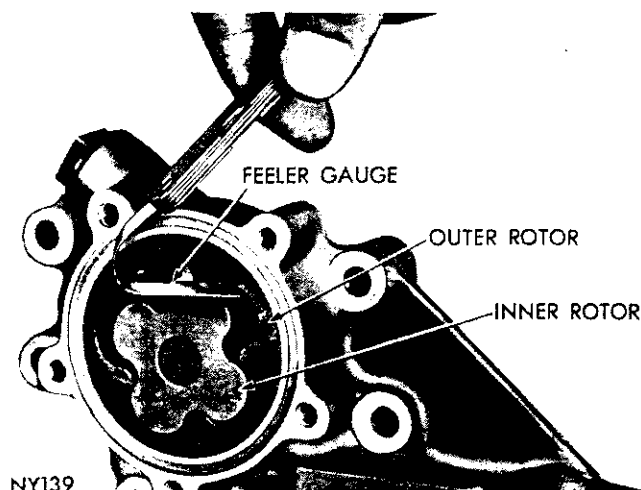

Fig. 54—Measuring Clearance Between Rotors
- (7) If clearance between inner rotor and outer rotor (Fig. 54) is more than .010 inch, replace inner and outer rotors.
- (8) Inspect oil pump relief valve plunger for scoring and for free operation in its bore. Small scores may be removed with 400 grit wet or dry paper.
- (9) For 198-225 cubic inch engines the relief valve spring has a free length of 2-9/32 to 2-19/64 inch and should test 14.85 to 15.85 lbs. when compressed to 1-19/32 inch. Discard spring that fails to meet specifications.